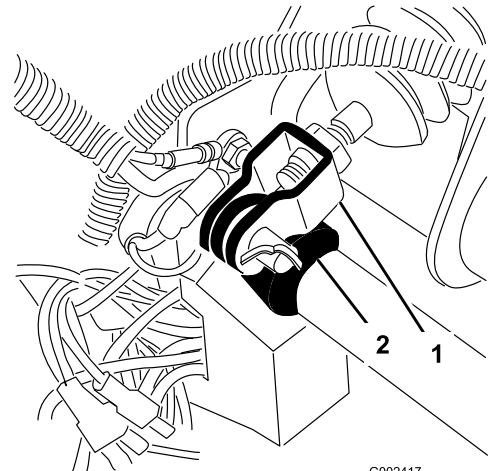

Figure 54
1. Remove the cotter pin and clevis pin securing the master cylinder yoke to the brake-pedal pivot (Figure 54).
3. Loosen the jam nuts securing the yoke to the master cylinder shaft (Figure 54).